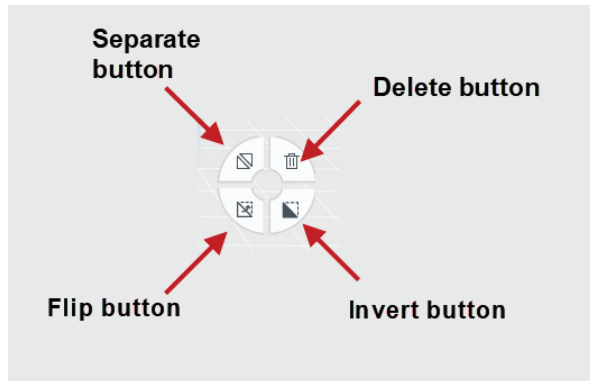

Figure-50. Context toolbar
- On selecting features, a round button (Action icon)  is displayed in the viewport. Click on this button to display context toolbar (Action wheel); refer to Figure-50. Click on the desired button to perform respective operation on selected faces.